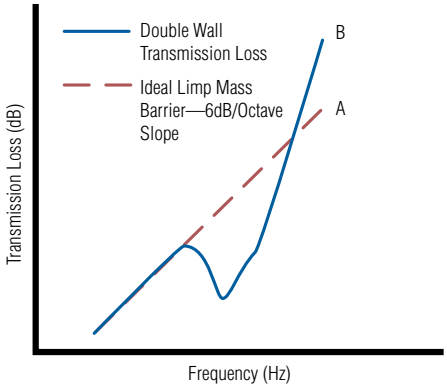

Figure 1: Transmission Loss Behavior of Single and Double Wall Systems
Obeying the laws of physics, a barrier will produce increasing attenuation at higher frequencies. This attenuation—*transmission loss (TL)*—is measured according to ASTM Standard E-90. *Figure 1* shows a graph of TL for a simple limp barrier material (Curve A). The upward sloping curve